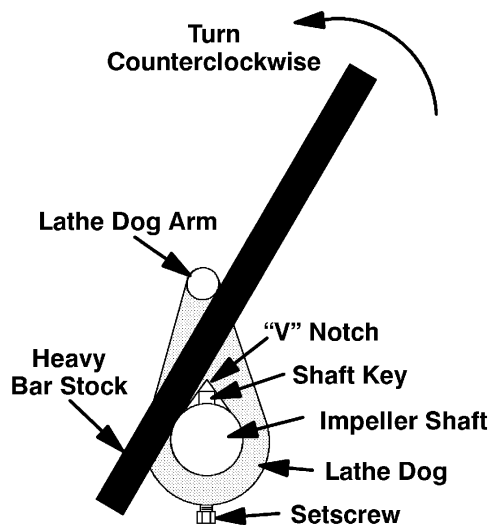

Figure E-2. Loosening Impeller
Immobilize the impeller by wedging a block of wood between the vanes and remove the impeller capscrew and washer (40 and 41). If removed, install the shaft key (23). Install a lathe dog on the drive end of the shaft (22) with the "V" notch positioned over the shaft keyway (see Figure E-2).
the drive end of the shaft) as shown in Figure E-2. **Use caution** not to damage the shaft or keyway. When the impeller breaks loose, remove the lathe dog and wood block.